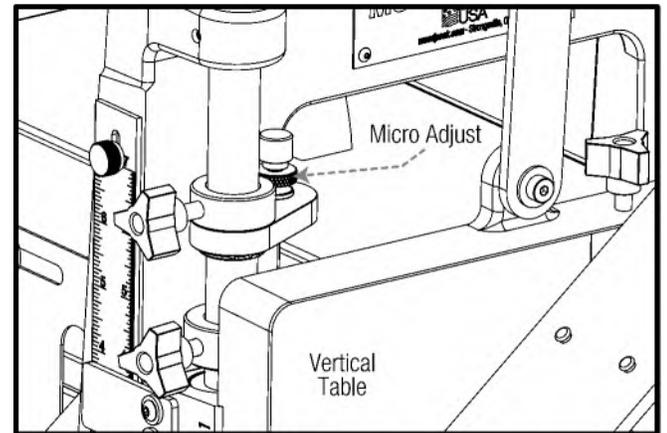

FIGURE 2. Swing the Micro Adjust until it contact the vertical casting to allow the lever to clear.
2. Swing the Micro Adjust towards the center of the machine until the swing arm contacts the vertical casting. **FIGURE 2.**